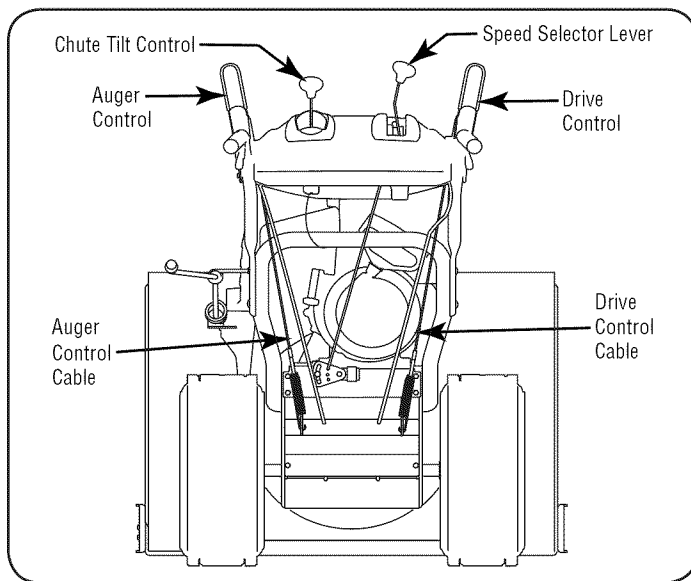

Figure 13
1. When the auger control is released and in the disengaged "up" position, the cable should have very little slack. It should NOT be tight. Refer to Figure 13.
4. Allow the auger to remain engaged for approximately ten (10) seconds before releasing the auger control. Repeat this several times.
1. With the engine turned off, move the speed selector lever into sixth (6) position. Refer to Figure 13.